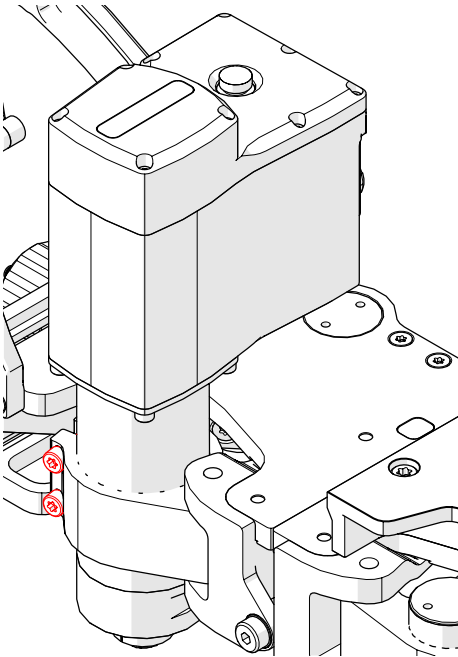

Fig. 188 - Unscrew two screws
1. Unscrew the two clamp screws using a T25 TORX driver (*Fig. 188*).